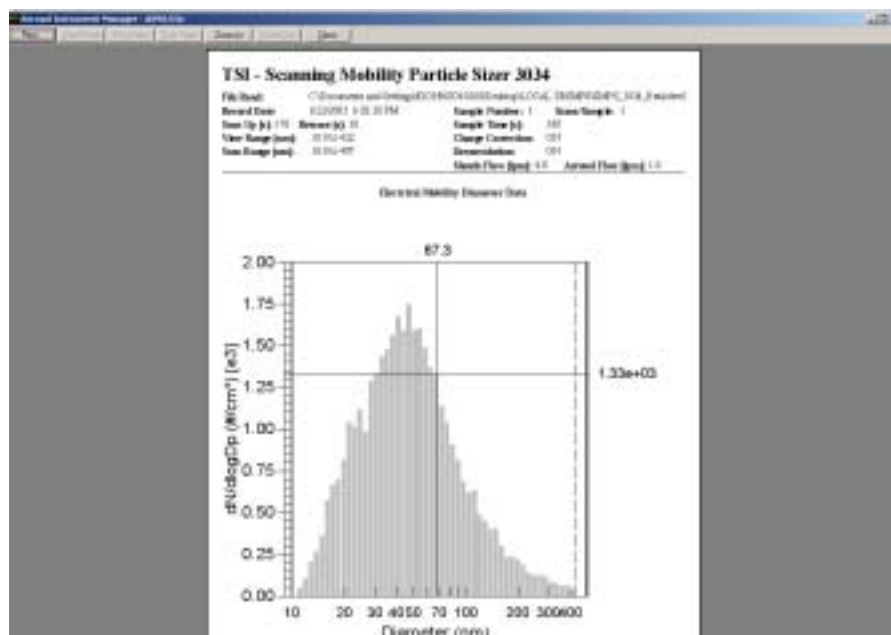

Figure 7-4
2. Review that what you see in the print preview window is what you want to print (an example is shown in Figure 7-4), and select **Print** from the Preview box. The contents of the window are sent to your printer.